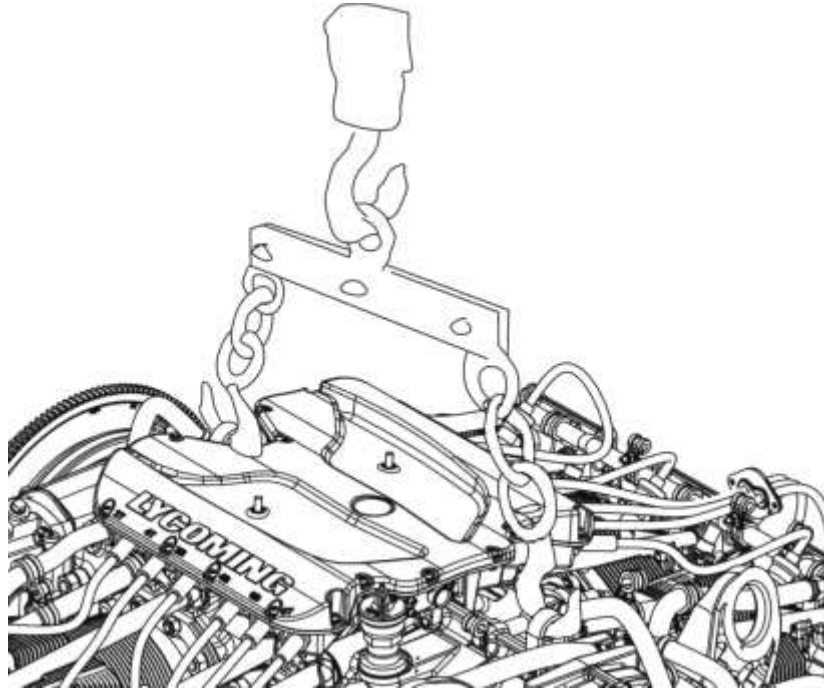

Figure 1
- (9) Disconnect and tag the engine wiring bundles and other connections from the following components in accordance with the airframe manufacturer's instructions.
- (10) Install protective caps on all electrical connectors.
- (11) Disconnect the power control in accordance with the airframe manufacturer's instructions.
- (12) Remove all wiring bundle attaching clamps and hardware.
- (13) Remove the manifold pressure gage line and aircraft fuel supply lines in accordance with the aircraft manufacturer's instructions.
- (14) Refer to the aircraft manufacturer's instructions to disconnect any accessory connection or to remove any external accessories to enable removal of the engine from the aircraft.
- (15) Make sure that all wires, lines, and attachments between the engine and airframe are disconnected and capped.
- (16) Attach an engine-lifting cable (with a minimum capacity of 750 lb. (340 kg)) to the lifting straps on the engine in accordance with Figure 1.